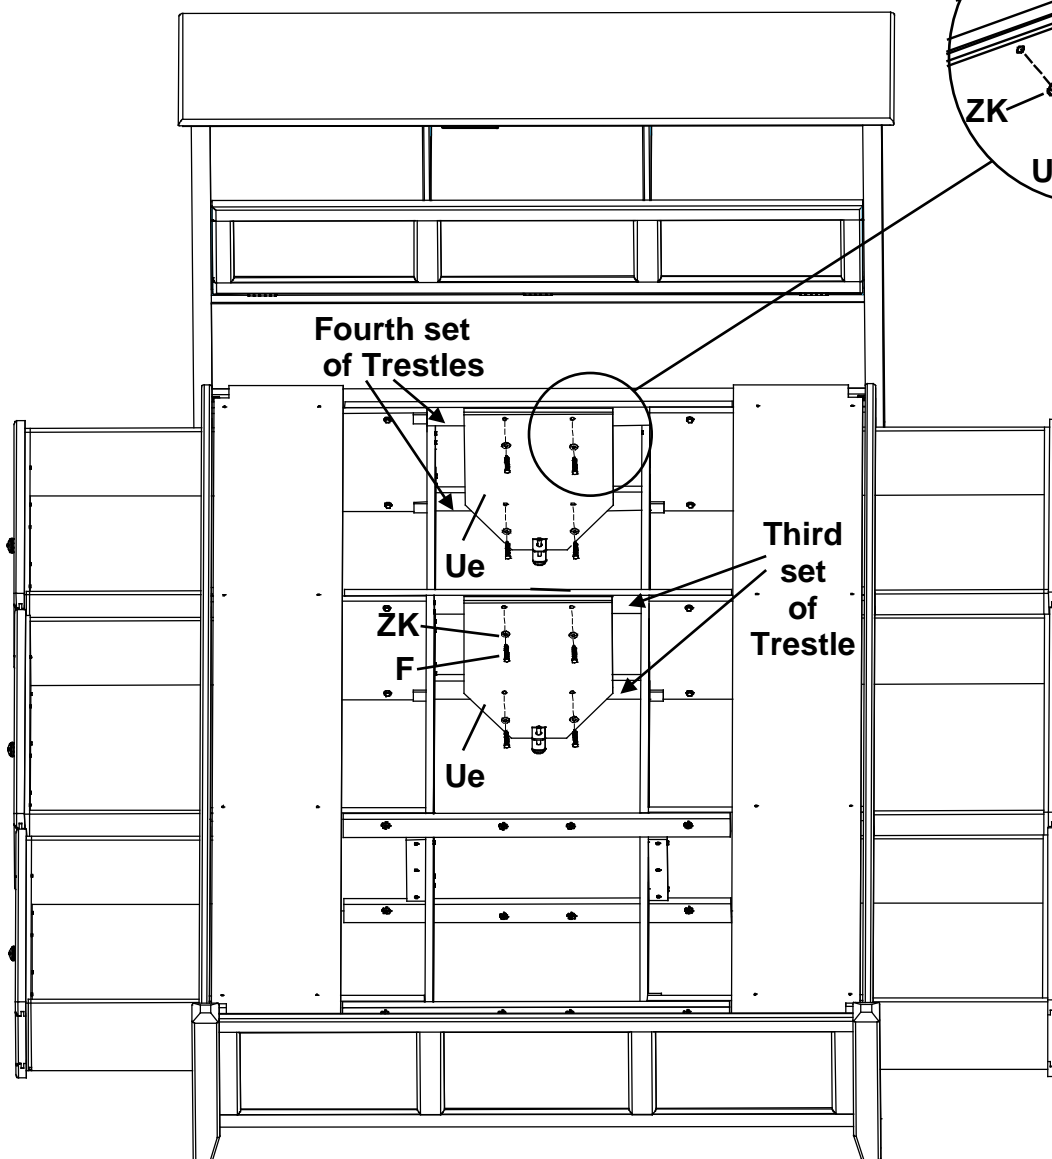

Fig. 8
Facing the Headboard, place two Assembled Feet (Ue) on the inside faces of the third and fourth upper and lower Trestles. Attach with Washers (ZK) and 1/4" x 1-3/4" Hex Bolts (F). See Figures 8 and 8a.